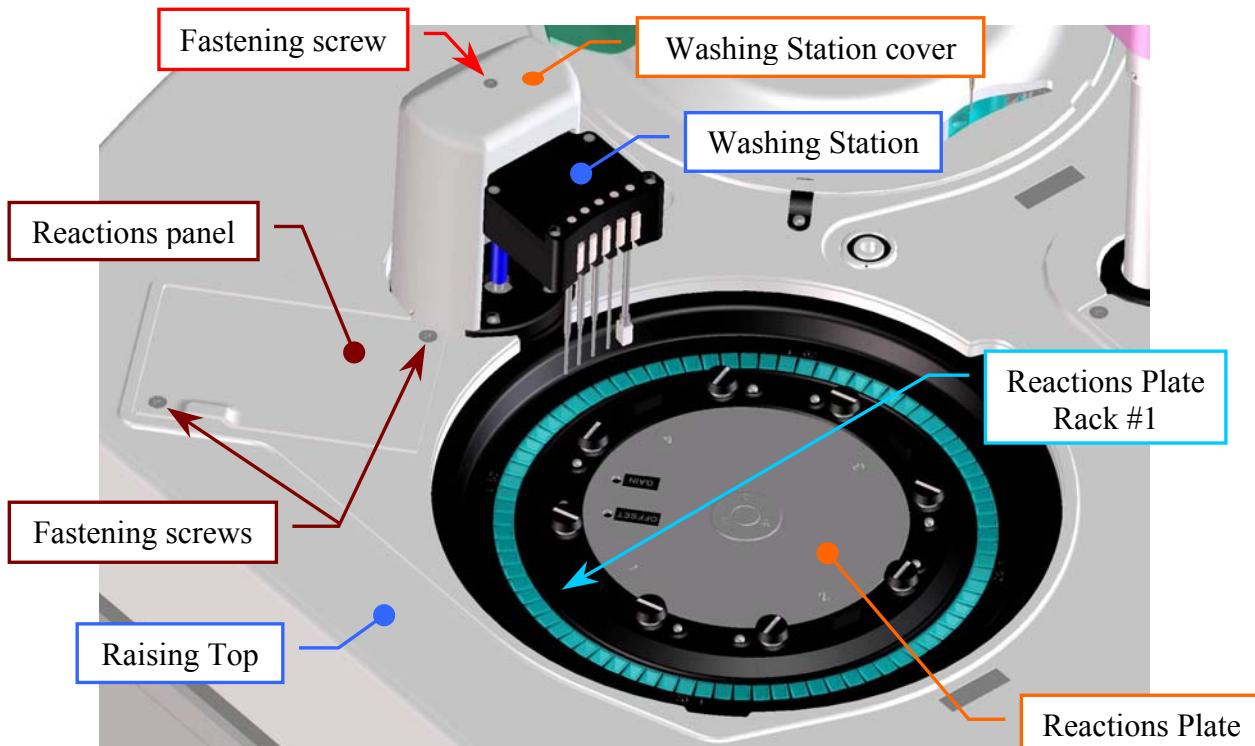

Fig. 107 – Reactions Plate
2. Take a Reactions Plate Rack with a opaque cuvette #1, then substitute the Reactions Plate Rack #1 (**Fig. 107**) with this new Rack.
- unscrew the two fastening screws of the Reactions panel placed on the Raising Top near the Washing Station (**Fig. 107**) and take out the panel from the Raising Top;
11. Position the Reactions panel in its housing on the Raising Top (**Fig. 107**) and screw its two fastening screws.
16. Substitute the Reactions Plate Rack with the opaque cuvette #1 with the original Reactions Plate Rack #1 (**Fig. 107**).
2. Unscrew the fastening screw of the Washing Station cover (Fig. 107) and remove the cover from its place on the Raising Top.